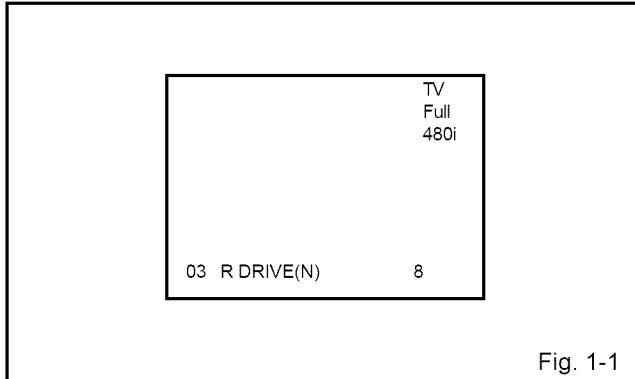

Fig. 1-1
1. Put Masking Tape (cotton tape) around the Flat Package IC to protect other parts from any damage. (Refer to Fig. 1-1.)
2. Press the VOL. DOWN button on the set and the channel button (9) on the remote control for more than 2 seconds to display adjustment mode on the screen as shown in **Fig. 1-1**.
4. Activate the adjustment mode display of **Fig. 1-1** and press the channel button (03) on the remote control to select "R DRIVE(N)".
3. Activate the adjustment mode display of **Fig. 1-1** and press the channel button **(32)** on the remote control to select "BRIGHTNESS CENT".
9. Activate the adjustment mode display of **Fig. 1-1** and press the channel button **(32)** on the remote control to select "BRIGHTNESS CENT".
13. Press the INPUT SELECT button on the remote control to set to the AV(S) mode.
15. Activate the adjustment mode display of **Fig. 1-1** and press the channel button **(32)** on the remote control to select "BRIGHTNESS CENT".
21. Activate the adjustment mode display of **Fig. 1-1** and press the channel button **(32)** on the remote control to select "BRIGHTNESS CENT".
27. Activate the adjustment mode display of **Fig. 1-1** and press the channel button **(32)** on the remote control to select "BRIGHTNESS CENT".
33. Activate the adjustment mode display of **Fig. 1-1** and press the channel button **(32)** on the remote control to select "BRIGHTNESS CENT".
41. Activate the adjustment mode display of **Fig. 1-1** and press the channel button **(32)** on the remote control to select "BRIGHTNESS CENT".
3. Activate the adjustment mode display of **Fig. 1-1** and press the channel button **(43)** on the remote control to select "CONTRAST MAX".
9. Activate the adjustment mode display of **Fig. 1-1** and press the channel button **(43)** on the remote control to select "CONTRAST MAX".
15. Activate the adjustment mode display of **Fig. 1-1** and press the channel button **(43)** on the remote control to select "CONTRAST MAX".